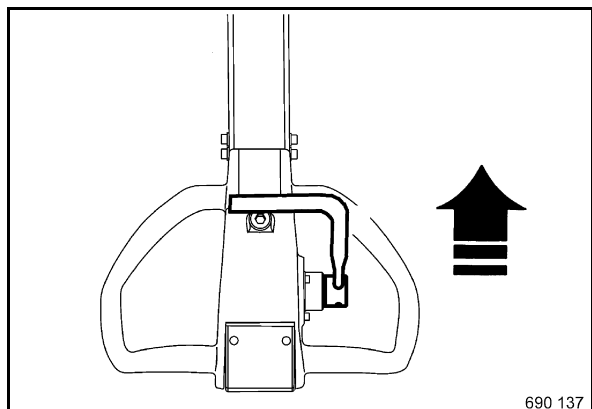

Fig. 61
- Hold the travel lever in forward position (Fig. 61).